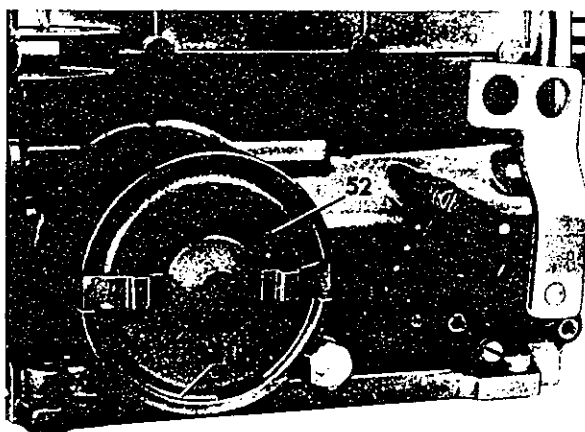

Fig. 29
4 Mount brake band piston cover B 3 using a new O-ring and install lock ring (51) Fig. 29